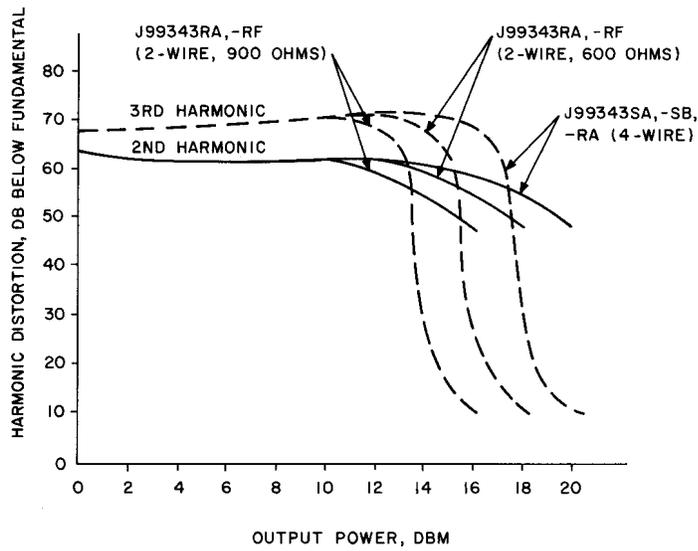

Fig. 26—Harmonic Content of 1 kHz Sine Wave
**6.17** Although the power transfer characteristic of the repeaters is linear to the values discussed in 6.15 and 6.16, harmonic distortion becomes excessive at a slightly lower output power. Figure 26 indicates the second and third harmonic content of a 1 KHz sine wave for increasing output power levels. Note that harmonic distortion becomes excessive at a lower output power in the 2-wire side of the 2-4 repeaters than in the 4-wire configurations.